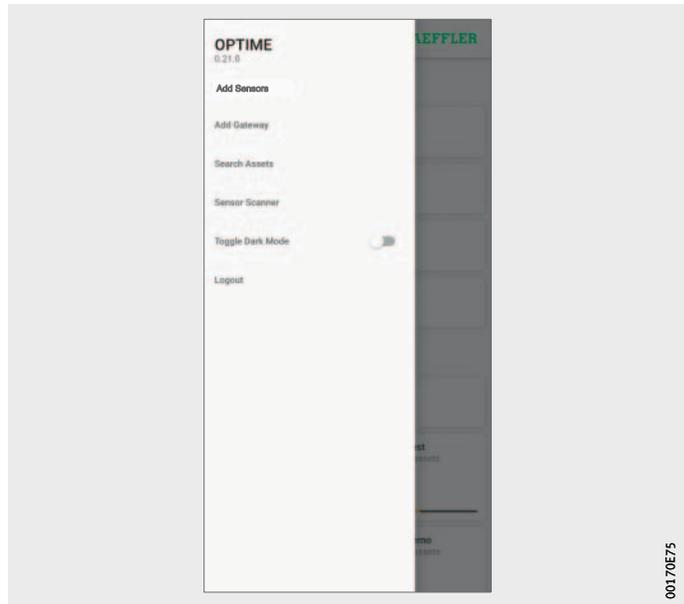

Figure 26
- ▶ Go to the [**Menu**] symbol and tap on the [**Logout**] button, *Figure 26*, page 42.